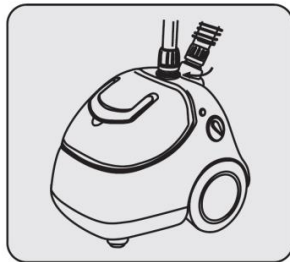

Fig.3
3. Screw the connector of pole clockwise until its tightened. (See Fig.3)
6. Install the hose into the hose connector according to the direction of arrow and turn in clockwise until it is tightened. Please don't make it too tight. (See Fig.3)